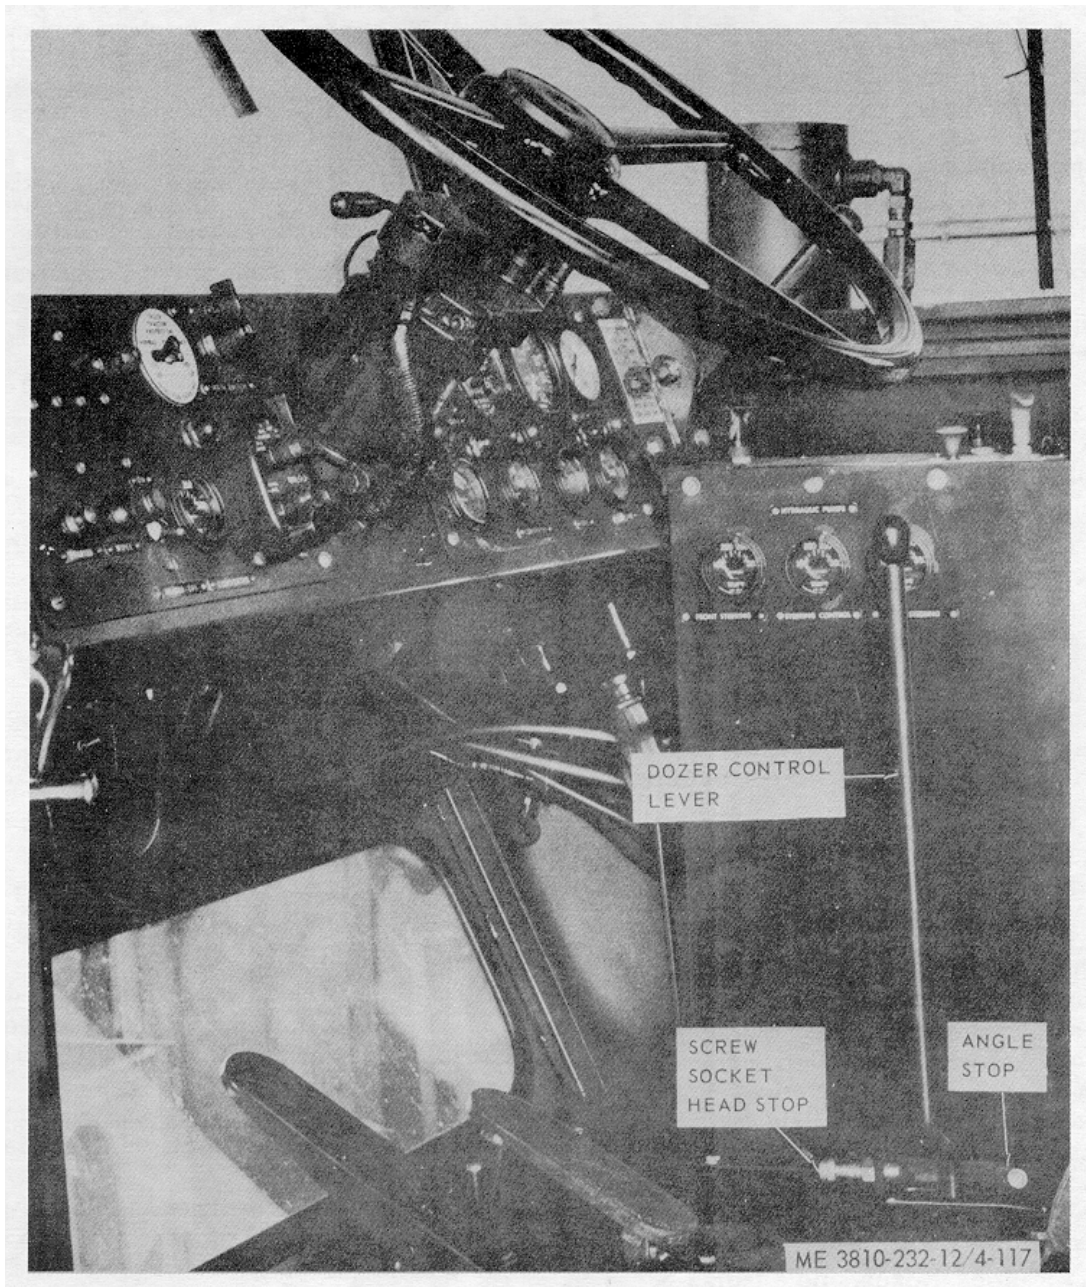

Figure 4-117. Control valve stop adjustment.
g. *Dozer Control Valve Stop Adjustment.* Adjust screw socket head stop and angle stop (fig. 4-117) to stop dozer control lever just before spool reaches the end of strokes (lower and raise).